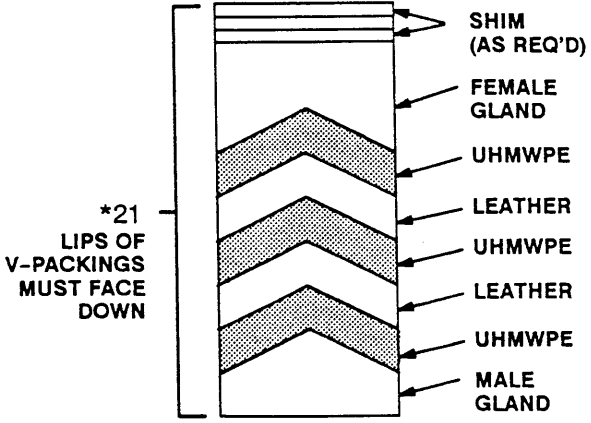

Fig. 4
1. Lubricate the throat gland/packing stack (21\*). Install the stack in the throat of the pump outlet housing (4). DO NOT disassemble the stack. *Be sure the lips of the v-packings face down in the throat.* See Fig. 4. Loosely install the packing nut/wet-cup (1).
2. Reinstall the sleeve (15) if it was removed, making sure to replace the gasket (12\*). *Be sure the tapered end of the sleeve faces down, toward the pump intake.*